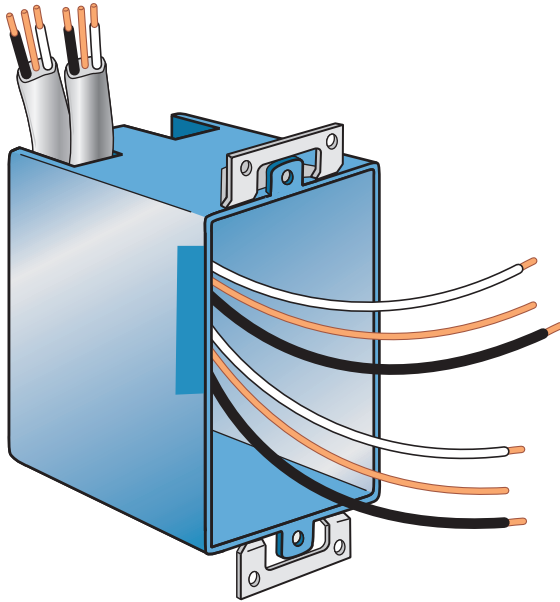

FIGURE 2-16 Multiple cables may run through a single knockout opening in a nonmetallic box, 314.17(C), Exception. (Delmar/Cengage Learning)
- *NEC 314.17(C)*: The exception allows multiple cables to be run through a single knockout opening in a nonmetallic box. This permission is not given for metallic boxes. See Figure 2-16.